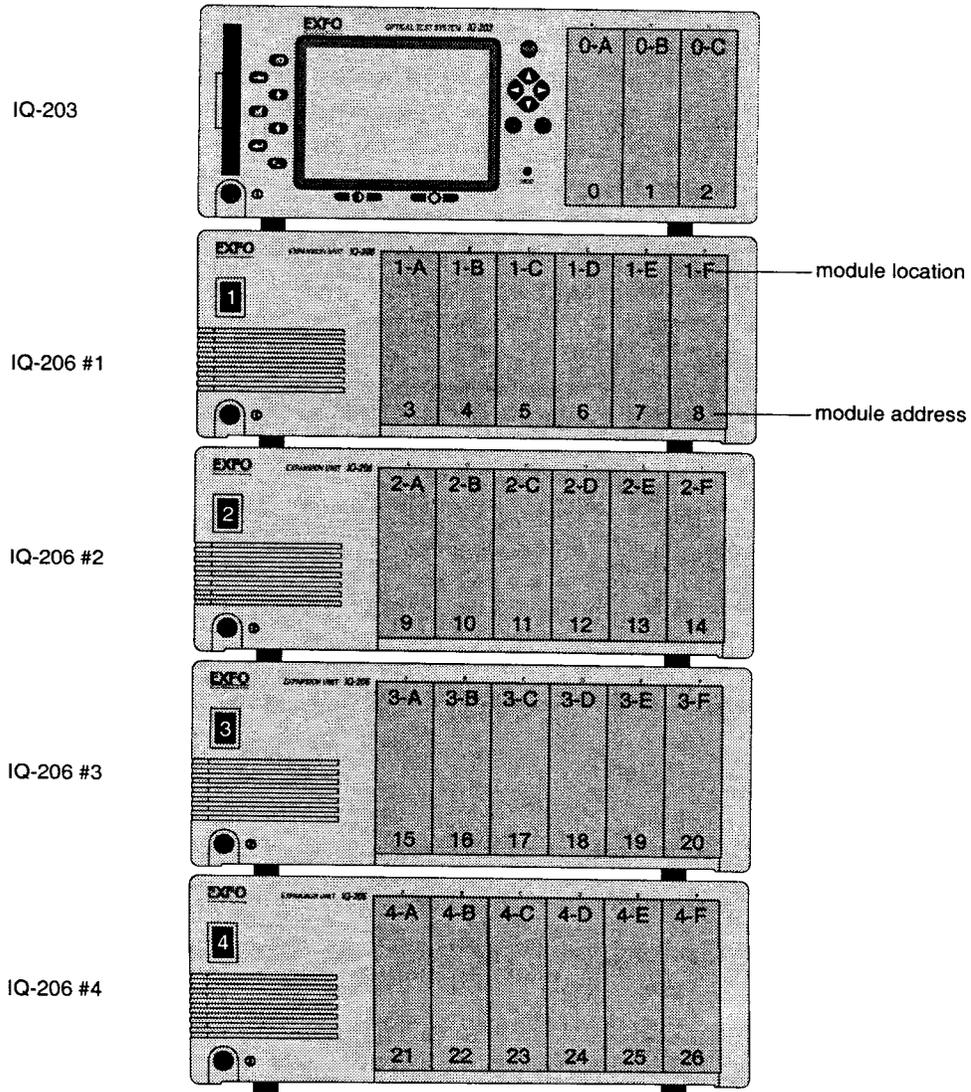

Figure 7-2. IQ-200 Module Addresses
As previously mentioned, the IQ-200 system can accommodate up to 27 modules. This maximum configuration is shown in Figure 7-2 on next page. The physical location and the module SCPI command address of each module is shown in the diagram.
- Parameters** The <address> parameter is a number (0 to 26) matching the module logical number (see Figure 7-2).